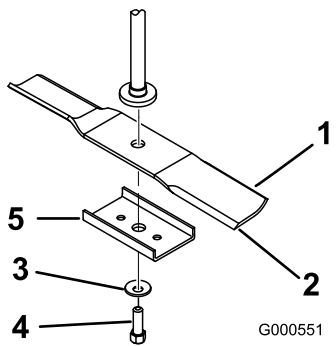
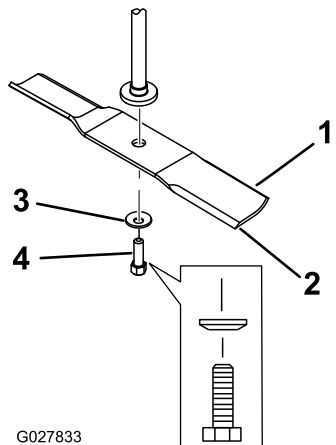

Figure 54
Figure 55
2. Remove the blade stiffener (32-inch decks only), blade bolt, the curved washer, and the blade from the spindle shaft (Figure 54 and Figure 55).
- Install the blade onto the spindle shaft (Figure 55).
- Install the blade stiffener (32-inch decks only), curved washer (cupped side toward the blade), and blade bolt (Figure 55).